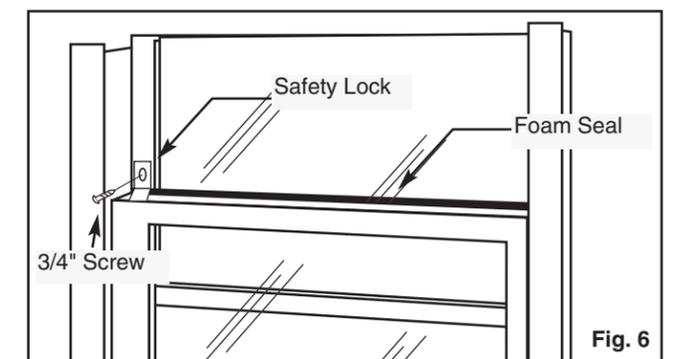

Fig. 6
- Place the second foam sealing strip to fit the opening between the inside and outside windows then attach the safety lock to the outside window frame using one 3/4" screw. See Fig. 6.